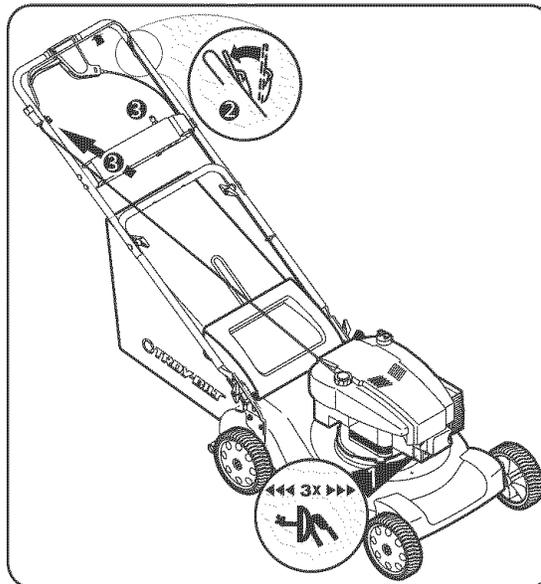

Figure 10
1. Push primer three times. Wait about two seconds between each push. See Figure 10. In temperature around 55° F or below, prime five times. Do not prime to restart a warm engine.
2. Standing behind the mower, squeeze the blade control against upper handle. See Figure 10.